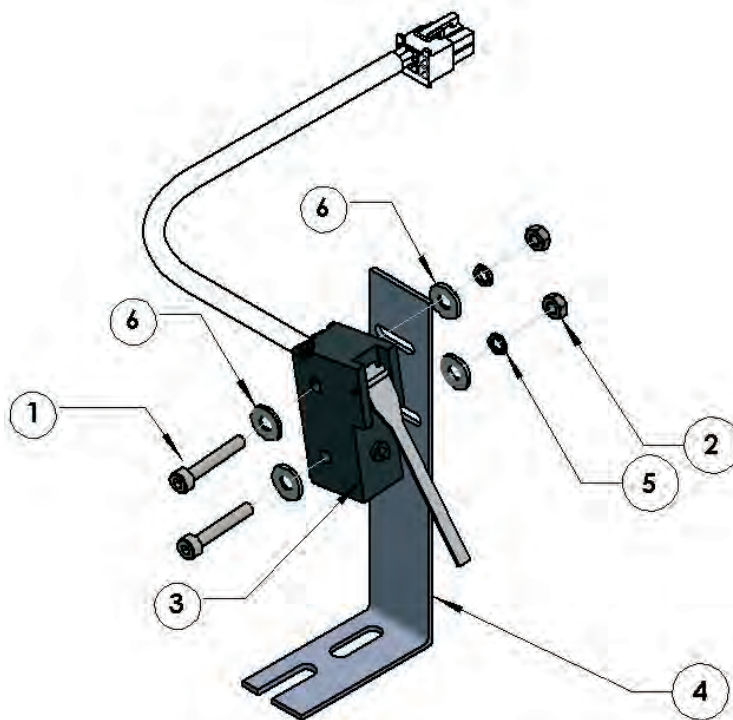

FIGURE 1. Press Arm Switch Assembly (47314)
- PRE-ASSEMBLE THE PRESS ARM SWITCH (47314) AS SHOWN IN FIGURE 1.